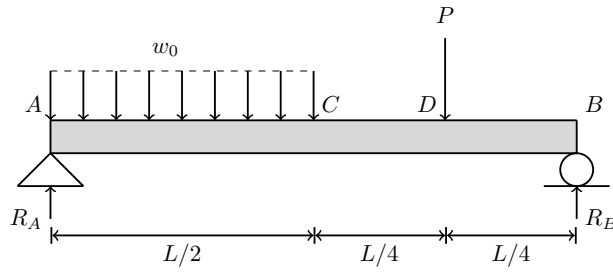

Figure 8
8. Consider the following loading condition of a simply supported beam as shown in Fig. 8. Draw the elastic curve for the given problem and determine the maximum deflection and slope. [10]